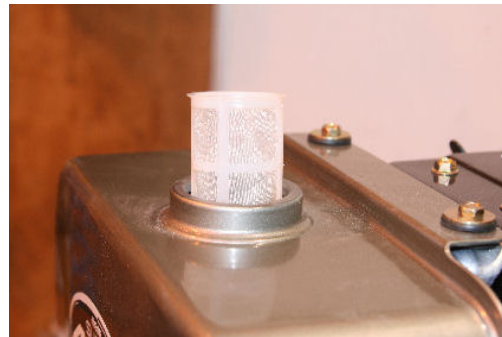

Fig 3-9 Top fuel filter
2. Remove tank neck bayonet fitting and extract filter from top of tank (Fig 3-9).